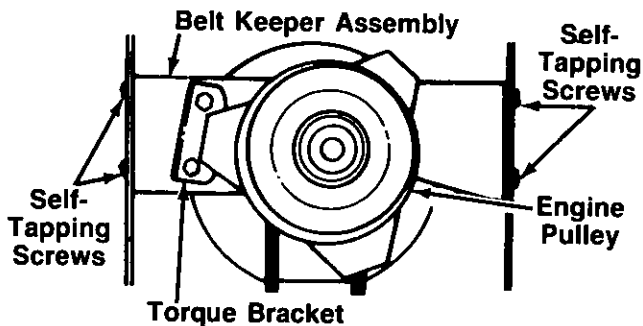

FIGURE 28.
**NOTE:** Figures 28 through 30 are shown with the unit tipped up for clarity. It is not necessary to tip the unit to remove the belts.
5. Remove the torque bracket by removing two hex bolts and washers. See figure 28.
6. Remove the belt keeper assembly by removing the four self-tapping screws which hold the belt keeper assembly to the frame at the engine pulley. See figure 28.